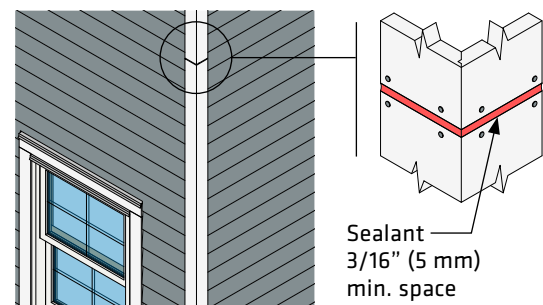

Figure 4e
- **Horizontal joints:** When stacking outside corner trim, end joints require a 3/16" inch (5 mm) space and seal with a ASTM C920 min. Class 25 sealant. (Figure 4e)